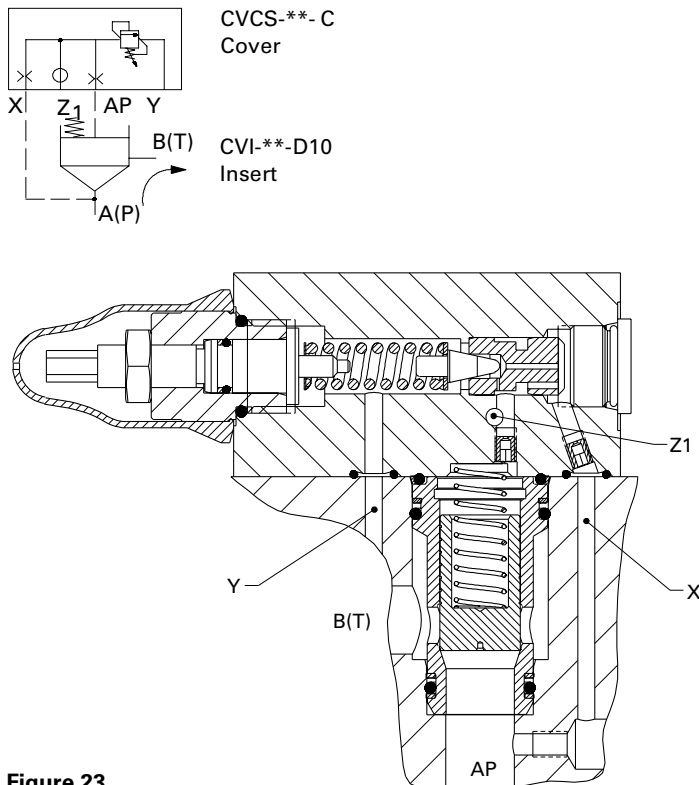

Figure 23
For stable valve operation follow Eaton-Vickers recommendations for selection of spring for each size of insert. See model code 5, page 41. Factory-fitted orifices in the covers are sized such that a given relief cover can be used with either insert type. Further fine tuning to suit particular system requirements can be achieved by changing orifice sizes. Operation of both types D10 and C10F is similar: System pressure at A(P), Figures 23 and 24, is determined by manual pilot adjustment. Orifices in AP and X ports dampen poppet reaction time, preventing instability. Connecting port Z1 to tank (via an appropriate remote control valve) vents the system pressure at port A(P) to a level equivalent to insert poppet spring load plus override pressure. See curves starting on page 43 for override pressure versus flow rate.